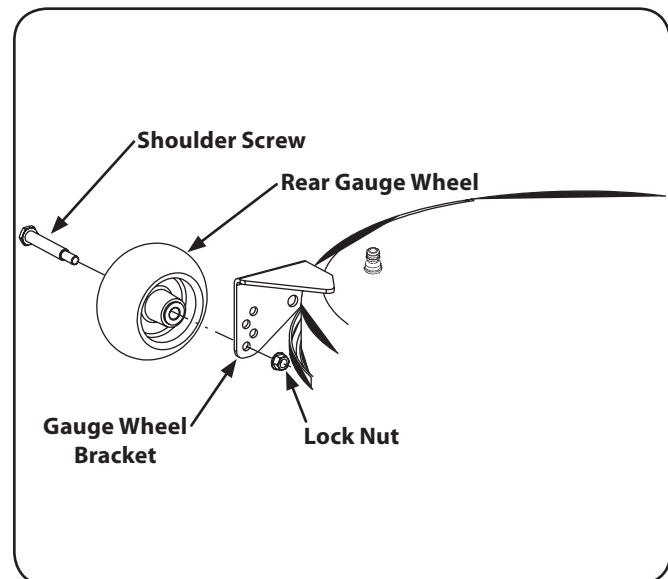

Figure 6-9 42" Deck Shown
2. Remove the lock nut securing one of the front gauge wheel shoulder screws to the deck. Remove the gauge wheel and shoulder screw. Refer to Figure 6-9.